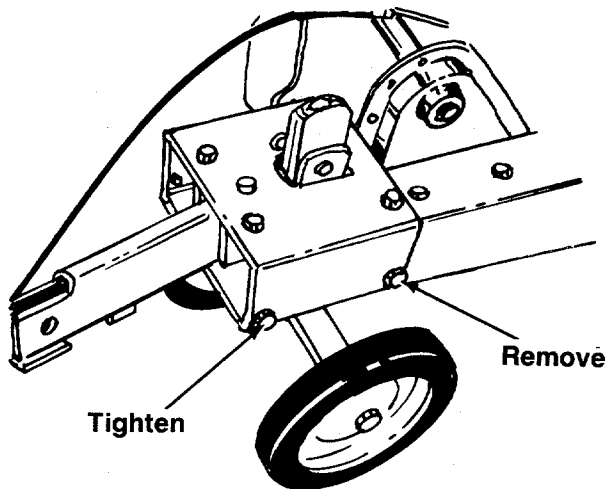

FIGURE 5.
3. Replace hex bolts in frame, which were removed in step 1. Tighten securely. See figure 5.
4. Remove hex bolts and belleville washers from front of frame. See figure 5.